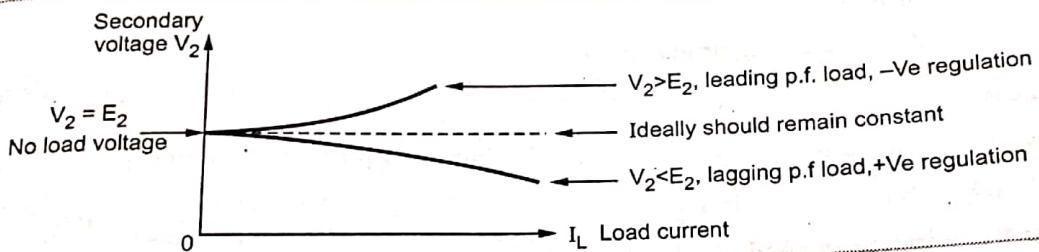

Fig. Q.18.1 Regulation characteristics at different power factors
- The Fig. Q.18.1 shows the regulation characteristics of transformer at different load power factors.